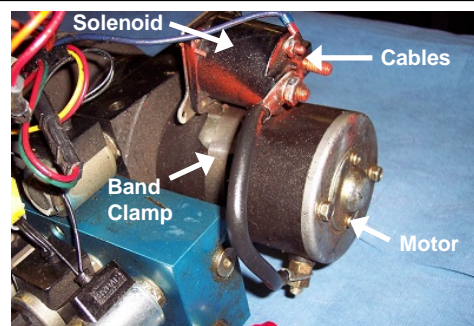

Figure 2 Motor with clamp, solenoid, & cables
- 1) Remove motor starter solenoid by loosening and removing the band clamp that holds it against motor. Remove the small blue wire from post at the end of the solenoid. Remove the two heavy cables that come from the battery and the motor. **(See Figure 2)**